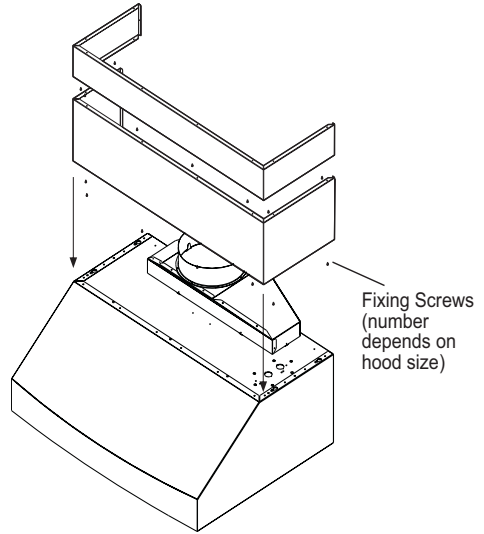

Figure 14
Optional duct covers shown in Figure 14 may be used to fill the space between the hood and ceiling in wall mount installations. 6" and 12" high duct covers are available and may be ordered separately.
2. Attach the duct cover(s) to the hood using sheetmetal screws as shown in Figure 14.